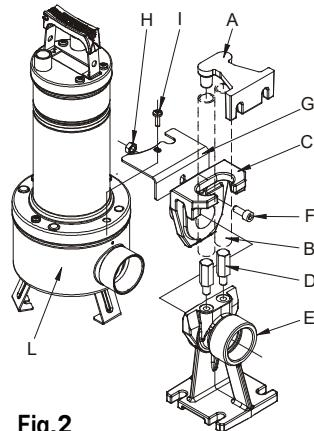

Fig.2
- 4.6 Connect the delivery pipe or hose directly to the pump mouth. If the pump is used in fixed installations it is advisable to connect it to the pipe with a coupling so as to facilitate disassembly and reinstallation. If a hose is used, fit a threaded hosetail on the pump mouth. Wrap the thread with suitable material to ensure an effective seal (teflon tape or similar). For fixed installations we advise the use of the lifting device DSD2 (available on request - **Fig.2**) to facilitate pump maintenance operations. When fitted between the pump delivery aperture and the pipe, it avoids having to remove the delivery pipe during maintenance jobs. The DSD2 device is composed of 8 parts:
Reposition the slide/pump assembly on the foot (Fig.2).